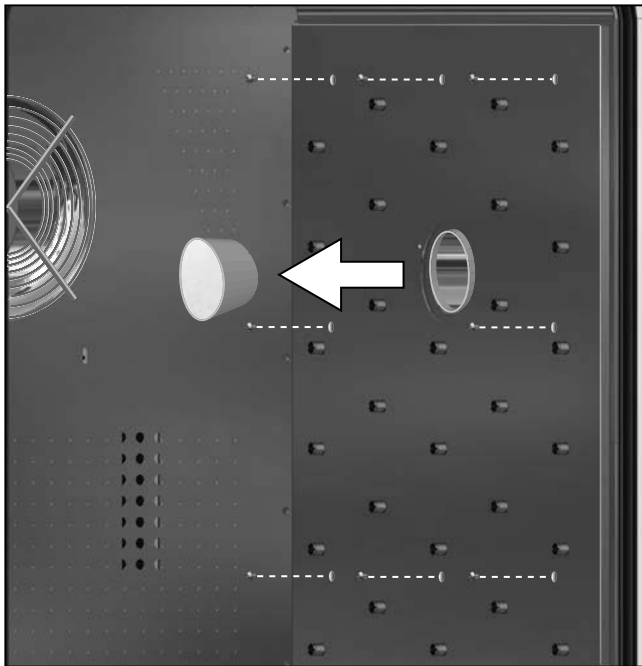
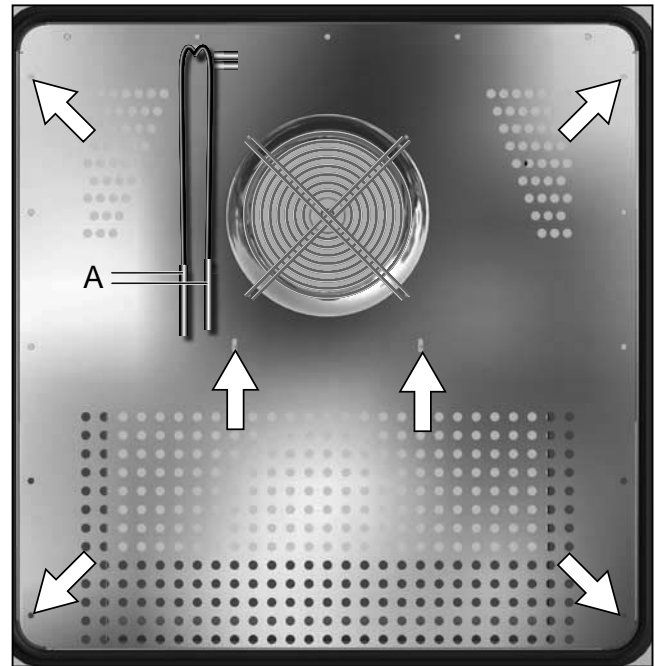

Fig. 35
Fig. 36
1. Pull out the silicone plugs, remove the 8 Allen screws each on the left and right side walls and remove the walls (Fig. 35).
2. Pull both temperature sensors from their sockets and let them hang down (Fig. 36, A).
3. Dismantle the rear wall of the test chamber; to do this, remove the 4 screws in the corners and 2 screws beneath the fan and pull out the metal plate at an angle (Fig. 36). Make sure that the temperature sensors are guided through the opening in the steel plate and remain in the interior.
5. When cleaning is finished, push the rear wall at an angle back into the test chamber. Thread the two temperature sensors through the opening in the metal sheet (Fig. 36, A).
7. Plug temperature sensors (A) into their sockets.
8. Insert the side interior walls on the left and right and tighten them with 8 screws each (Fig. 35). Reinsert the silicone plugs.